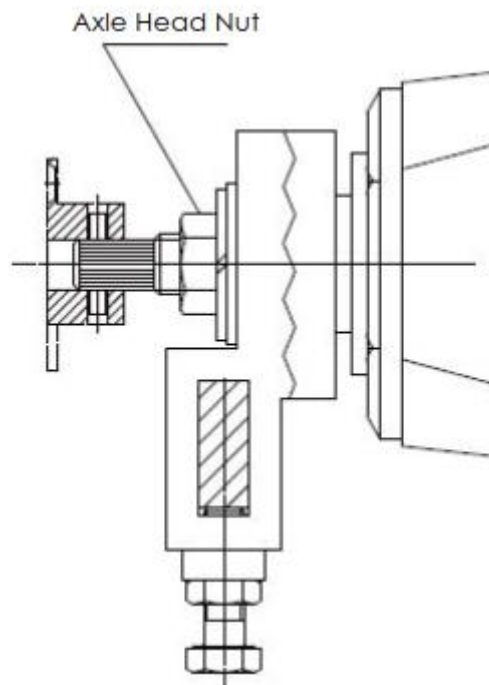

Figure 9 Balance Bar Installation
6.3.4 Load the balance bar (mechanism) into the square hole of the tooth insert binding son, tighten the top wire, fix the balance bar, loosen the axle head nut, adjust the tooth insert binding son to make the balance bar and the ball connecting rod in the same plane, then tighten the axle head nut, move the position of the balance hammer, adjust to the optimal balance state, and fix the balance hammer. For level of different densities, due to the different buoyancy of the floating ball, the position of the balance hammer on the balance bar can be adjusted to achieve the purpose of measurement, as shown in Figure 9.